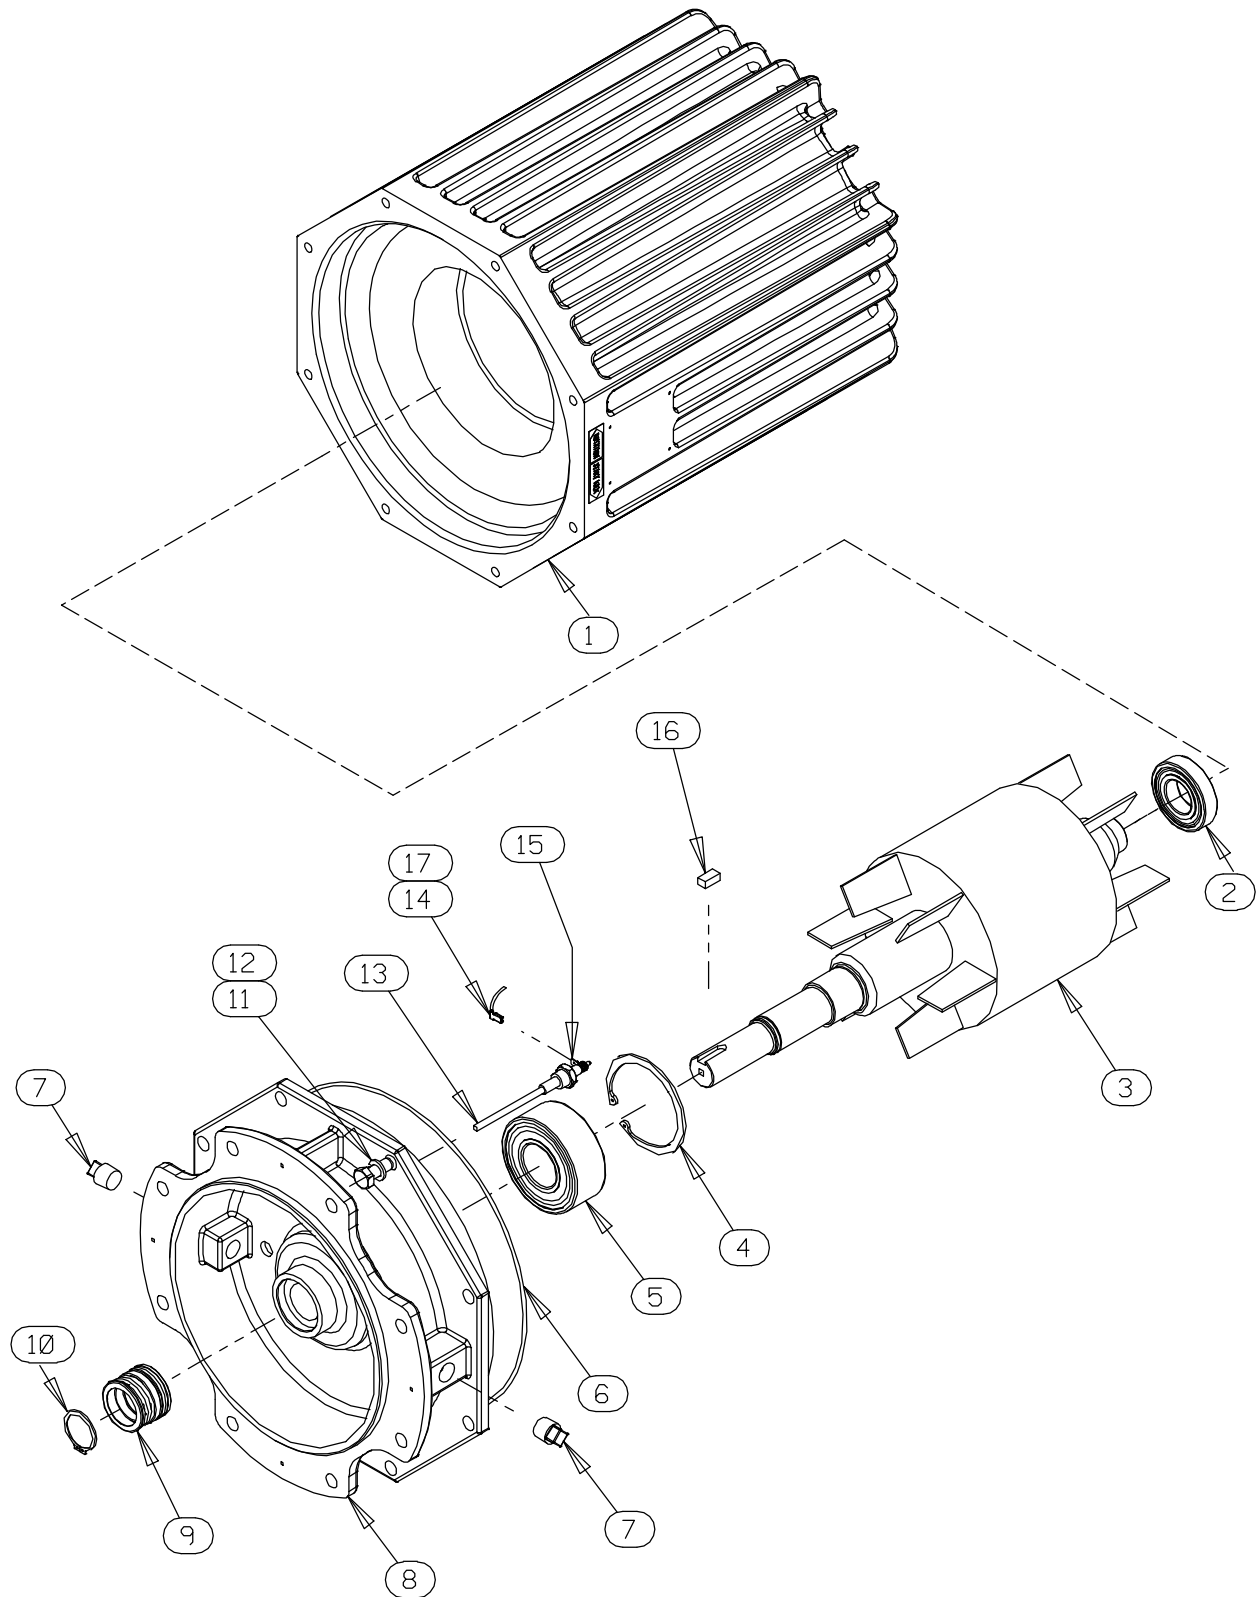

Figure E-2. 47111-821, -822 and -823 Motor Assemblies
(Figure E-2)
To remove the impeller, use two thin-bladed screwdrivers positioned 180° apart to pry on the back of the impeller and “walk” the impeller off the shaft. Use increasingly larger screwdrivers (or wedges) as necessary. After the impeller comes free of the shaft, retain the impeller key (16, Figure E-2).